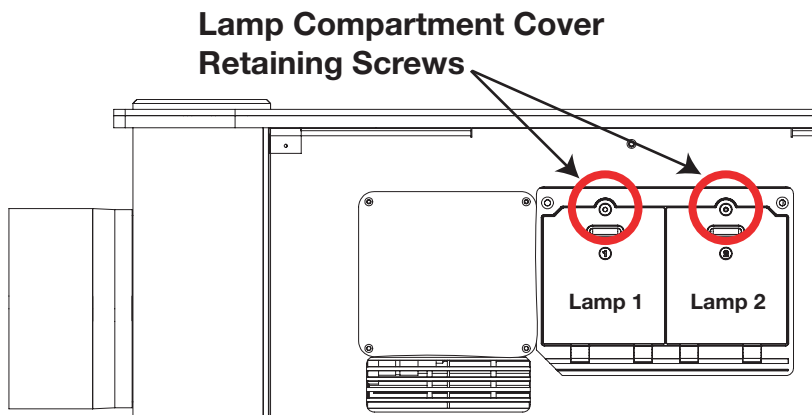

Figure 5-1. Opening the Lamp Door
2. **To open the lamp compartment cover:** Using a Phillips screwdriver, turn the captive screw on the lamp compartment cover counter-clockwise to access the lamp compartment (see Figure 5-1). When the door is open, the lamp automatically turns off.